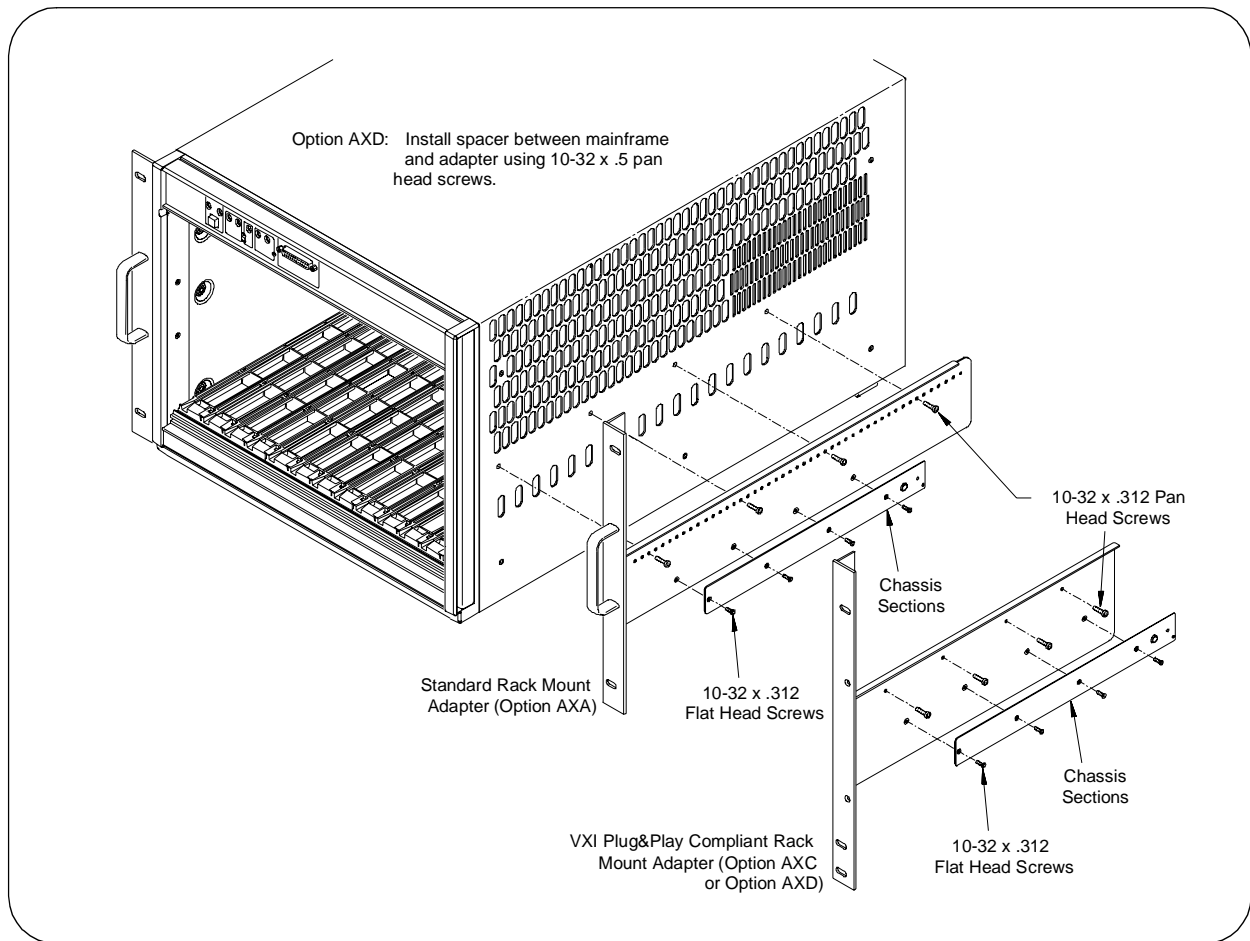

Figure 10 . Attaching the Rack Mount Adapters and Rack Slide Chassis Sections to the Mainframe.
7. Attach the rack mount adapters to the mainframe using the eight 10-32 x 0.312 pan head screws provided. To mount the mainframe flush with the rack front, begin with the 3rd hole from the front of the adapter (Figure 10).
8. Attach the chassis sections to the rack mount adapters using four 10-32 x 0.312 flat head screws per side (Figure 10). Note that in some recess positions, the front screw will not be used.